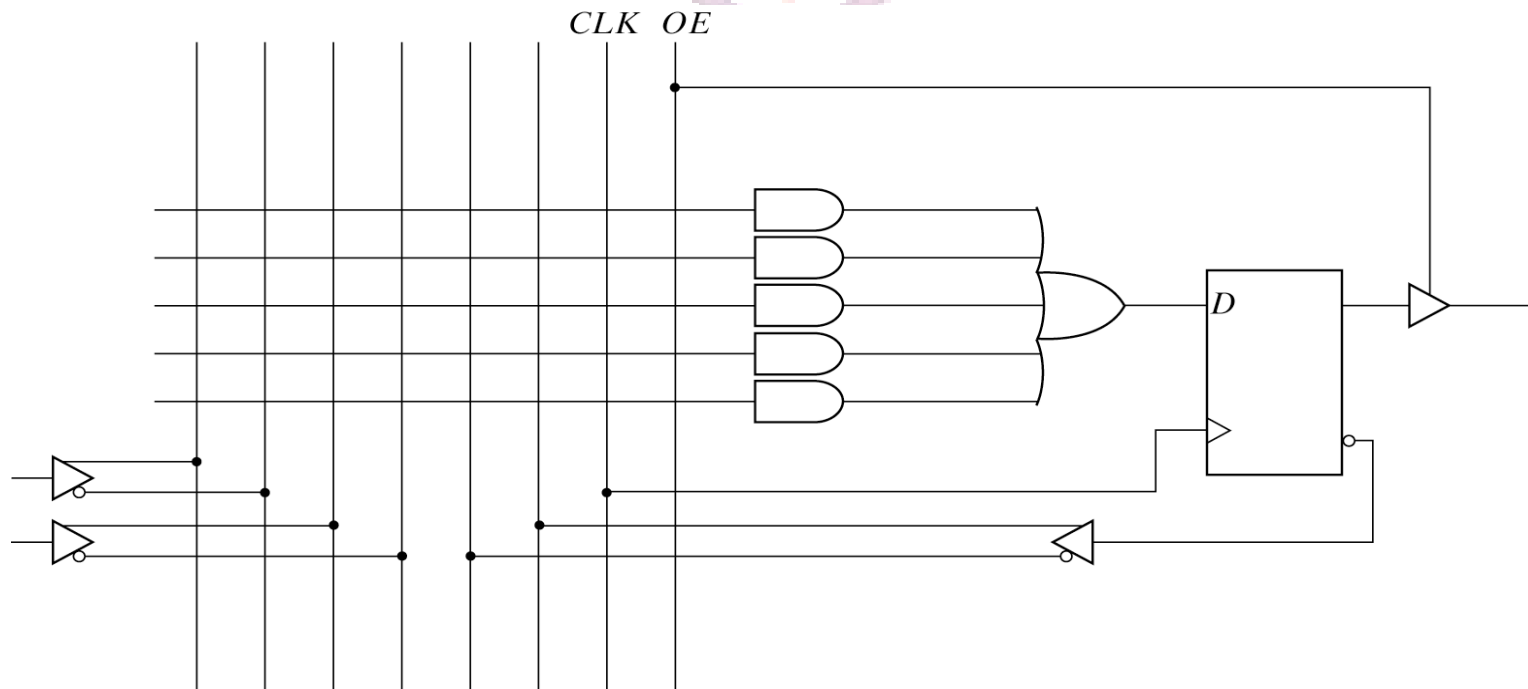

Fig. 7-19 Basic Macrocell Logic
- Fig.7-19 shows the logic of a basic macrocell.